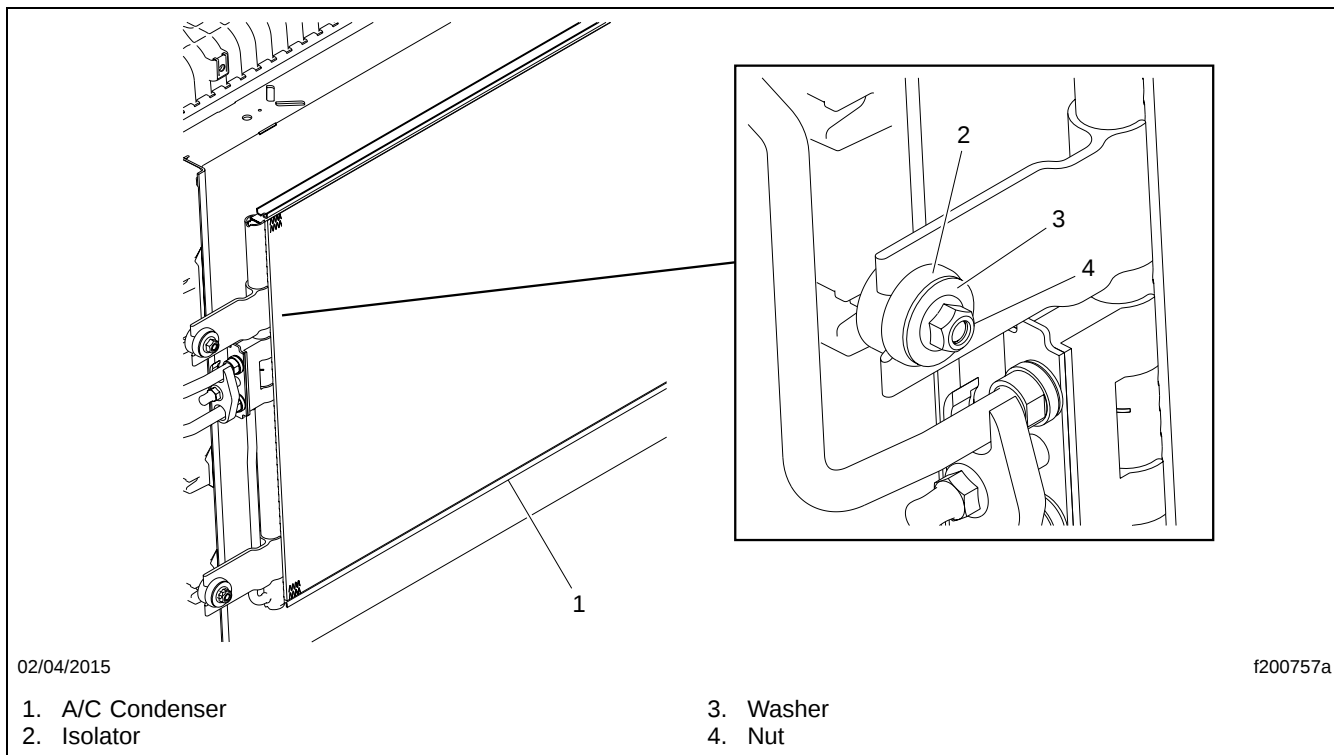

Fig. 3, A/C Condenser Installation (typical)
- 15.3 Unbolt the A/C condenser from the CAC. See **Fig. 3**.